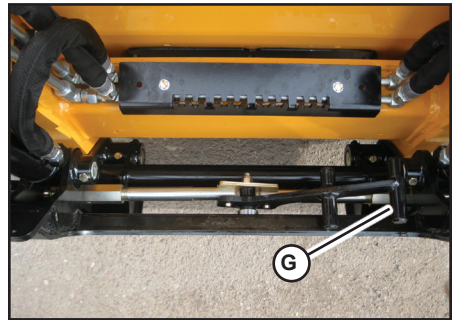
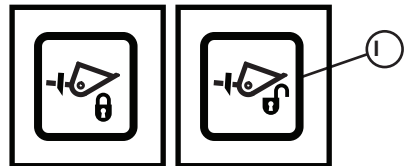

Fig. 46 - Manual Attachment Hitch In Unlocked Condition
Fig. 48 - Attachment Hitch Unlocked
1. In an open, level area, place the attachment lock into the unlocked position (I, Fig. 46).
2. All-Tach® system manual hitch: Move hitch lock lever (G) all the way to the right.
3. Power-A-Tach® system quick attach hitch: Press the Power-A-Tach® system unlock button (I, Fig. 48) on the control keypad until safety flags (H) have moved all the way in.